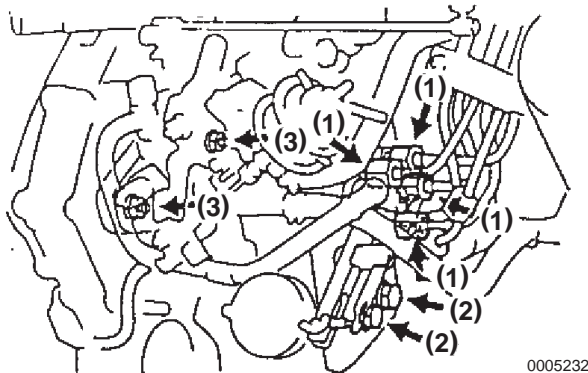

Figure 5-231
(**Figure 5-231, (1)**) securing the fuel injection pipe to the fuel injection pump
- (b) Two bolts (**Figure 5-231, (2)**) securing the fuel injection pump to the fuel injection pump stay
- (c) Two nuts (**Figure 5-231, (3)**) securing the fuel injection pump to the timing gear case.